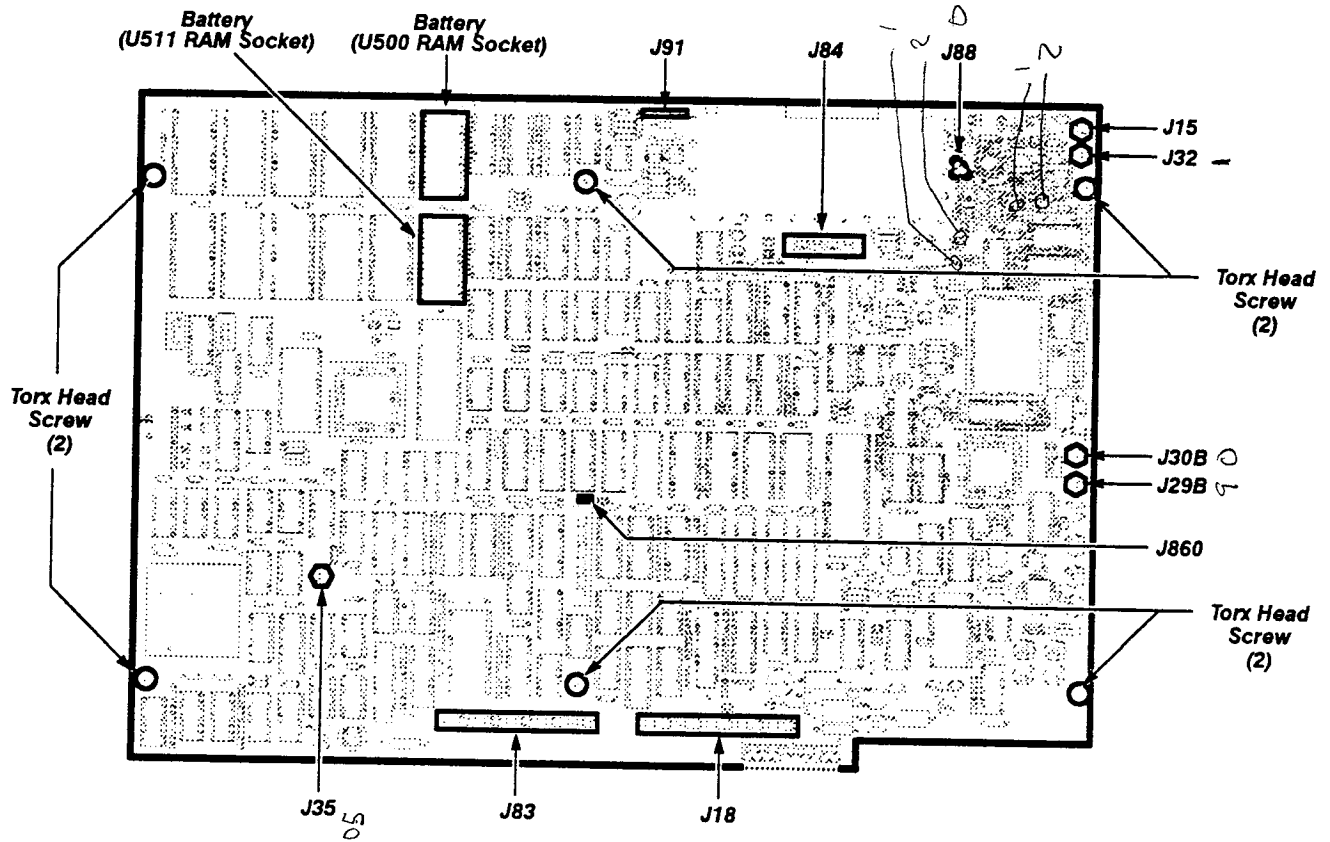

Figure 6, - Time Base/Controller ckt bd A5.
*Refer to Figure 6 for component locations.*